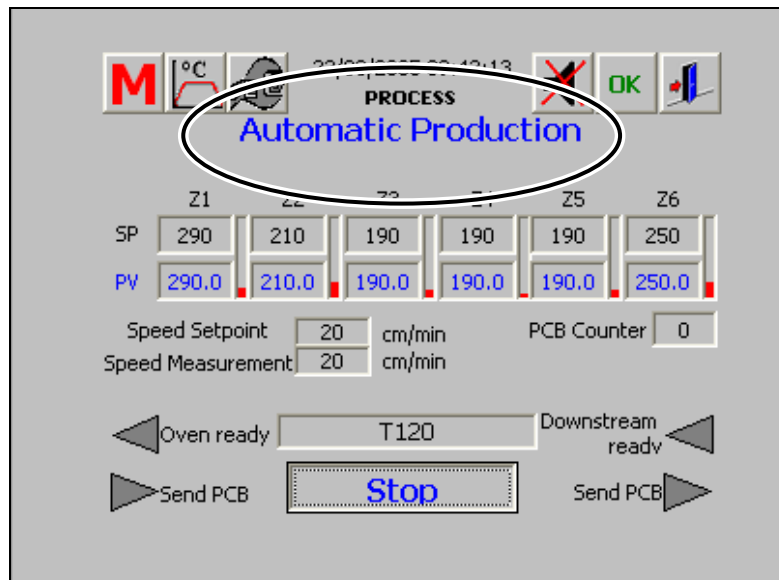

Figure 6-37 Main Menu - Automatic Production Activated
3. When automatic production is activated, the following message will appear on the Main Menu (Figure 6-37).